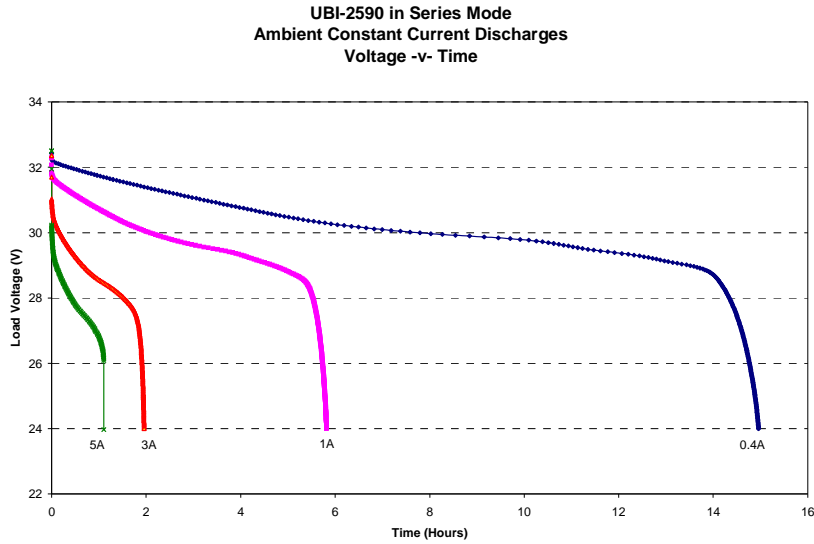

Figure 6
11.4. Series Mode (16.4v) Ambient Constant Current Discharges Voltage –v- Time (Figure 6)